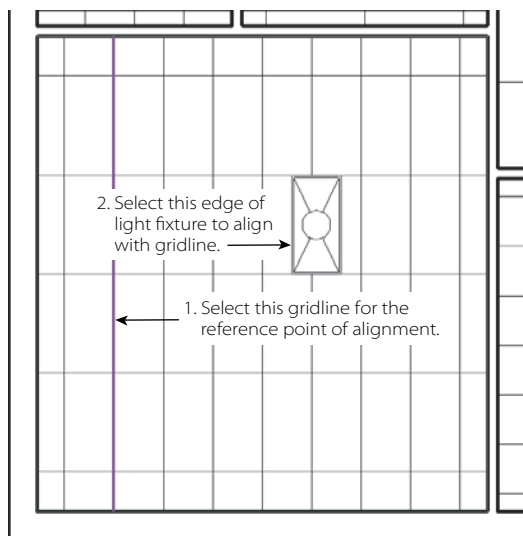

Figure 3.104
8. Pick a vertical gridline for the reference point of alignment, and then select the left edge of the light fixture to align it with the gridline (Figure 3.104). The light fixture is then aligned with the vertical gridline.